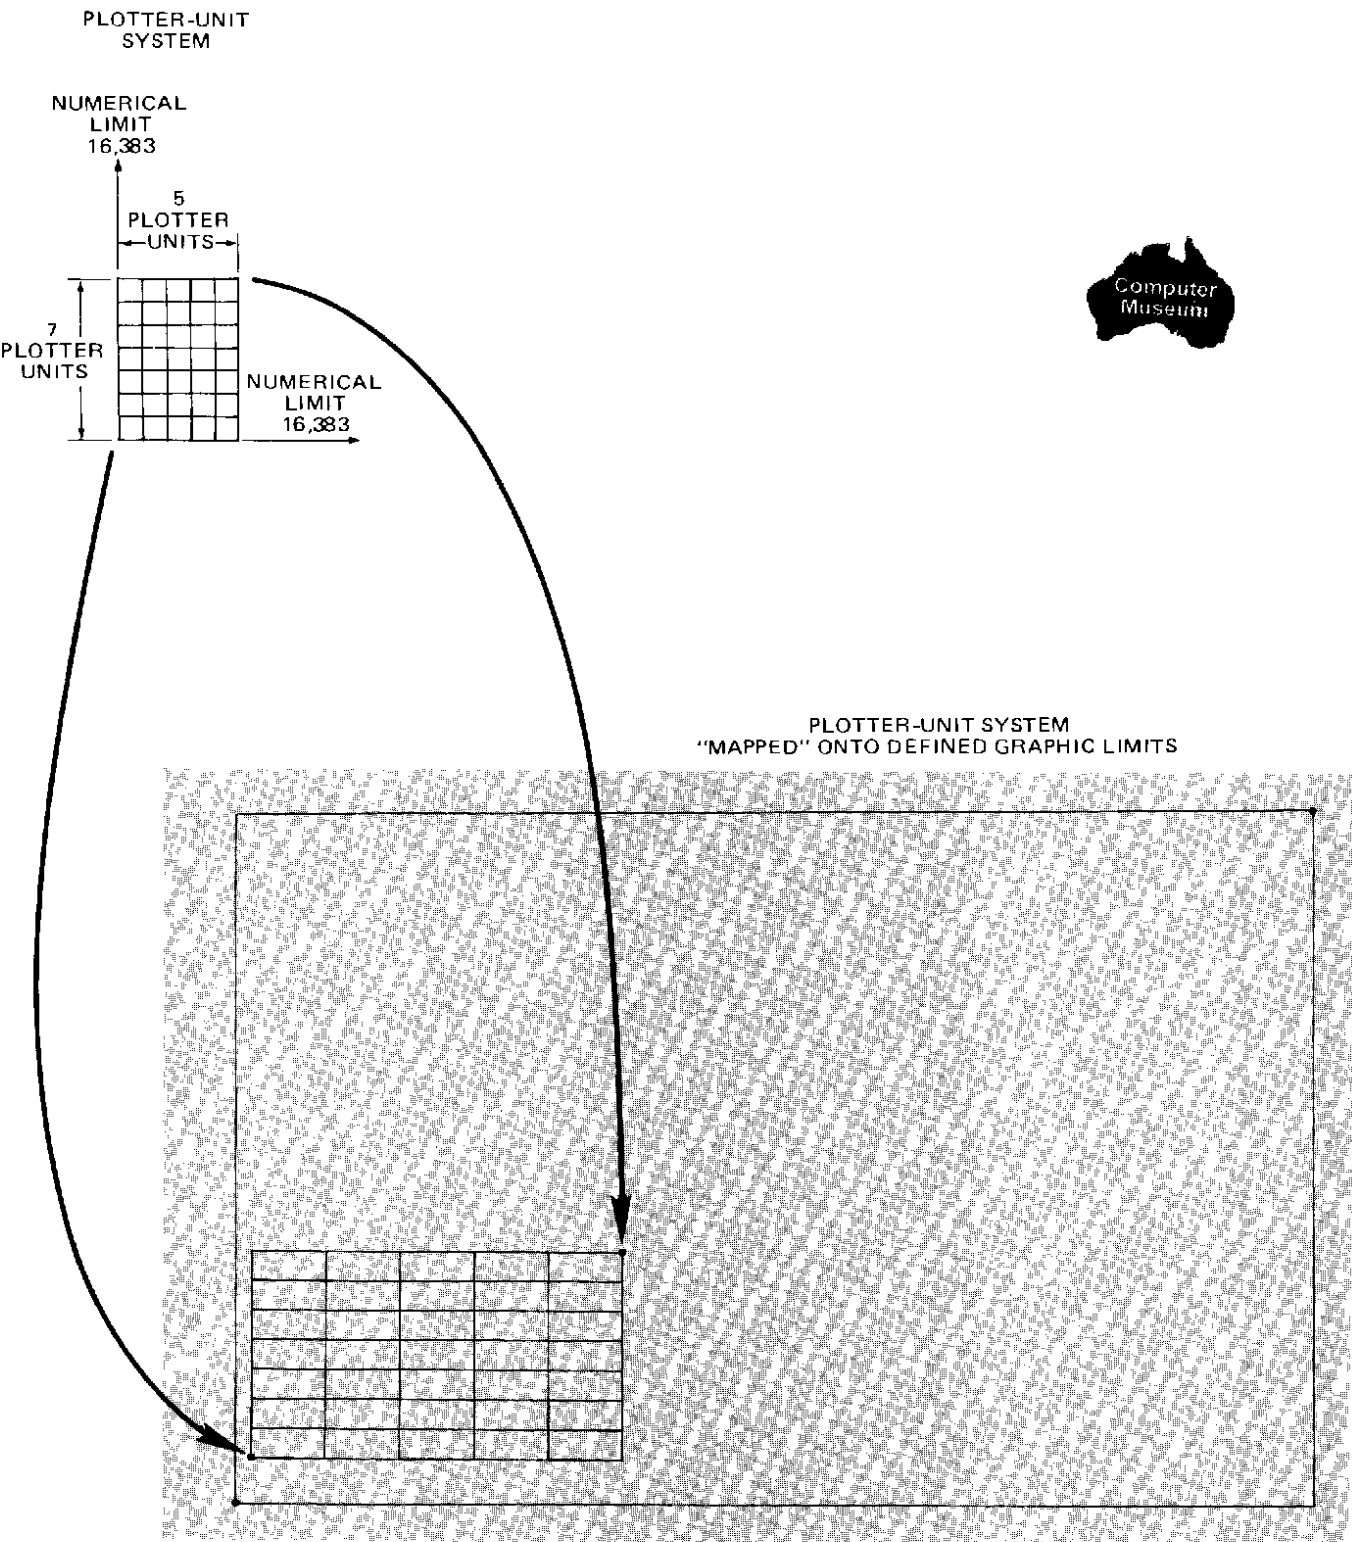

Figure 4-3. Setting a Grid Within Defined Graphic Limits
**Result** Establishes a 5 x 7 grid within the graphic limits shown in Figure 4-3. Graphic limits can be verified by use of the  and  front panel controls. Integer coordinates within the grid can be verified by pressing, then releasing